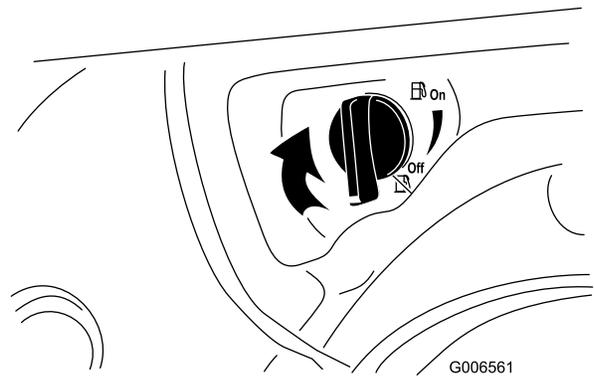

Figure 35
4. Close the fuel shutoff valve by rotating it clockwise (Figure 35).